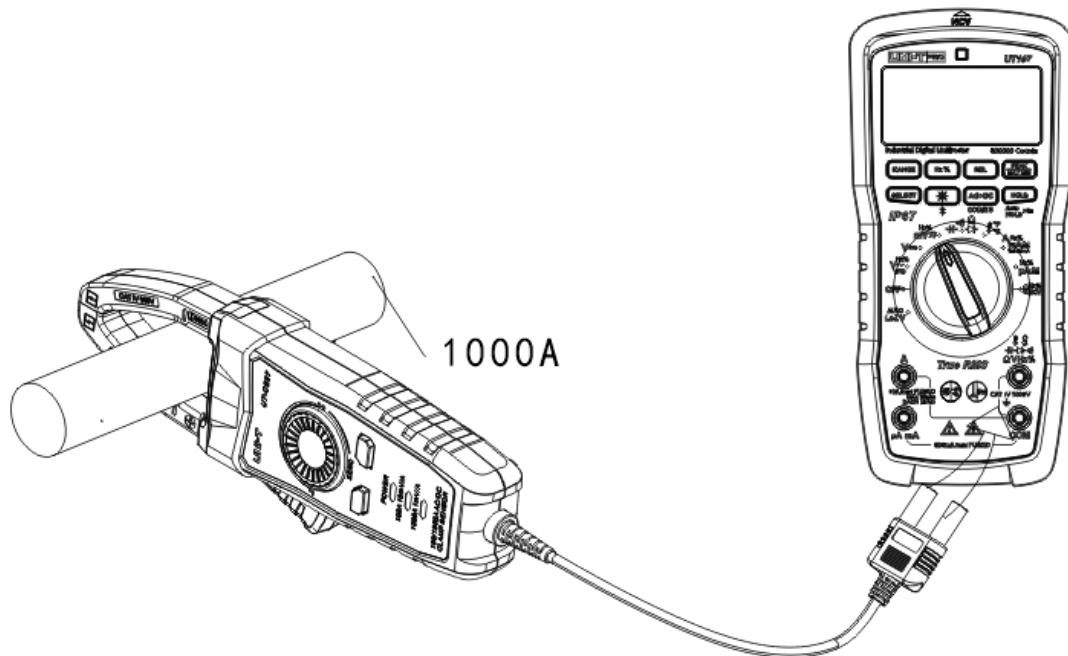

Figure 2
1. AC/DC current measurement (Figure 2)